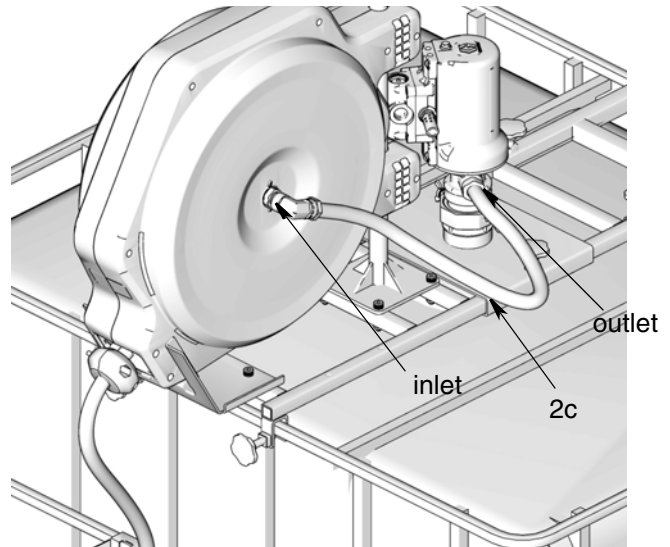

FIG. 19
5. Connect the flexible fluid hose (2c) between the pump outlet and reel inlet (FIG. 19).